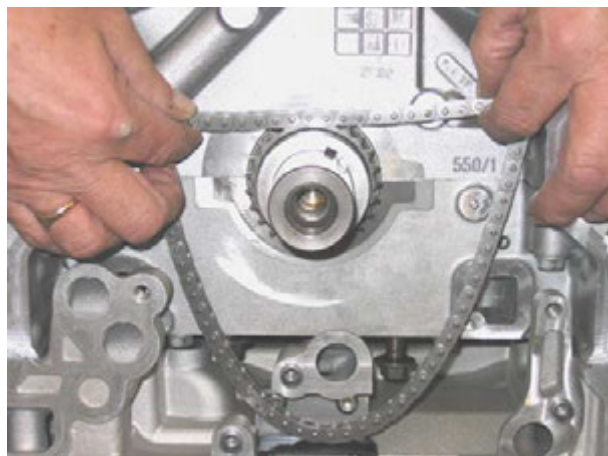

Figure 3
4. Release chain from oil pump drive sprocket, remove chain (refer to Figure 3).